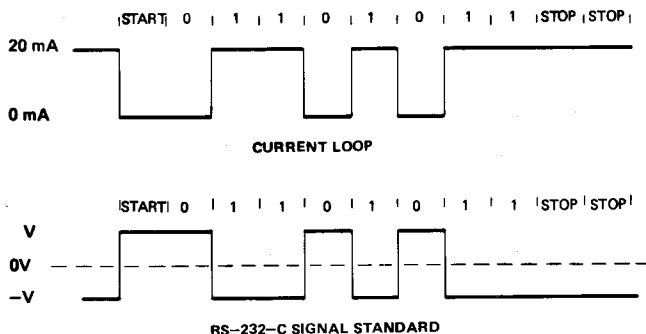

Fig. 2-50 20 mA Current Loop and RS-232-C Signal Standards
Each of the above configurations requires a specific cable for the connection of peripheral equipment. Figure 2-50 shows the two signal standards on the transmit and receive data circuits. For the Current Loop option, 20 mA represents a binary 1 and 0 mA represents a binary 0. For the RS-232-C option, negative voltage represents a binary 1 and positive voltage represents a binary 0.
**Programmable Communication Interface (PCI)** - Two 8251A PCI's are used to provide the two communication channels. Programming of the 8251A is performed by the M20 system software to initialize the 8251A to support M20 communication formats. The PCI, also referred to as a Universal Synchronous/Asynchronous Receiver/Transmitter (USART), accepts data characters from the M20 CPU in parallel format and then converts them into a continuous stream of serial data for transmission. It can simultaneously receive serial data streams and then convert them into parallel format for the M20 CPU. It signals the CPU whenever it can accept a new character for transmission, or whenever it has received a new character. For asynchronous serial data communication, as implemented for the M20, a start bit indicates the beginning of the character. This is followed by the character data bits, least significant first, and two stop bits (see Figure 2-50).